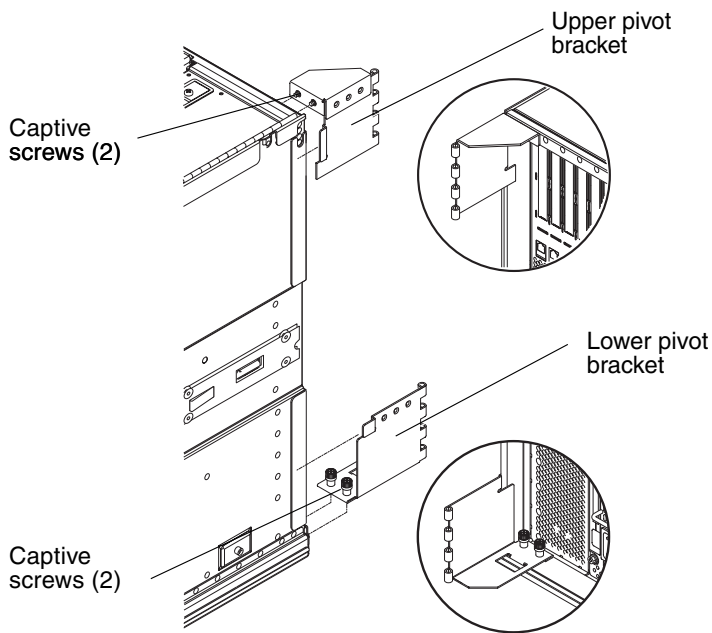
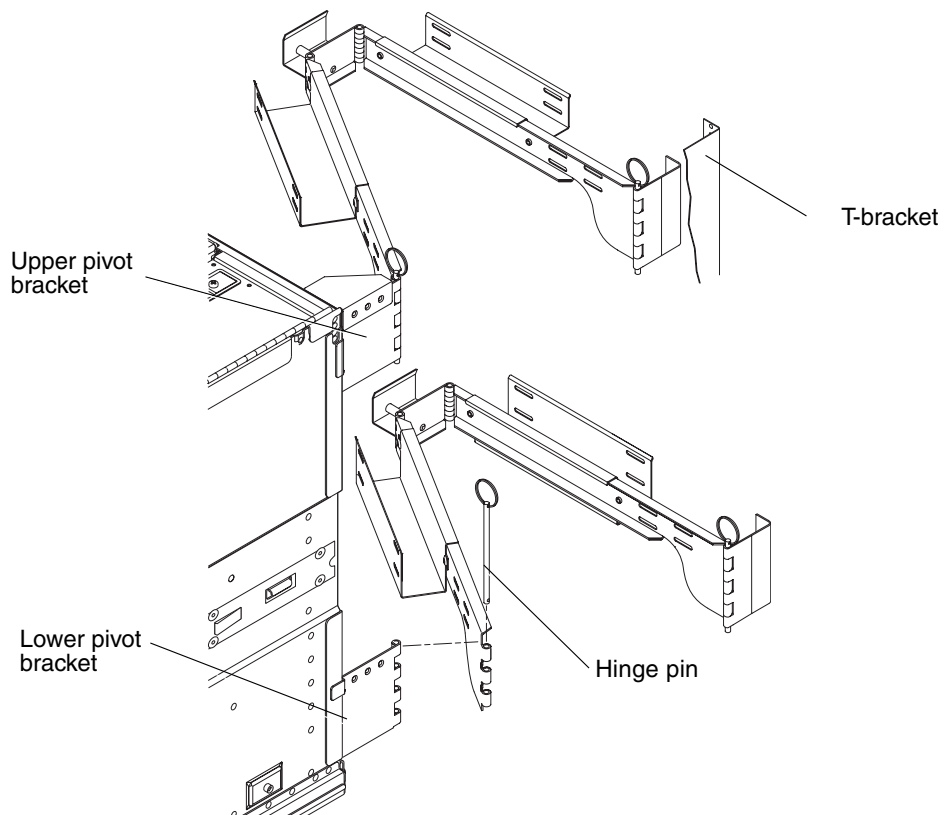

FIGURE 5-4 CMA-800 Upper and Lower Pivot Brackets
FIGURE 5-5 Upper and Lower Cable Arms and T-Bracket
8. Loosen the two captive screws that secure the lower pivot bracket (FIGURE 5-4).
3. Secure the upper pivot bracket to the system with the two captive screws (FIGURE 5-4).
4. Secure the lower pivot bracket with the two captive screws (FIGURE 5-4).
5. Secure the T-brackets to the left and right cabinet slide. Use two captive screws for each slide (FIGURE 5-5).
8. Reconnect the I/O cable arm to the upper pivot bracket. Install the hinge pin to secure it (FIGURE 5-4 and FIGURE 5-5).
9. Reconnect the power cable arm to the lower pivot bracket. Install the hinge pin to secure it (FIGURE 5-4 and FIGURE 5-5).